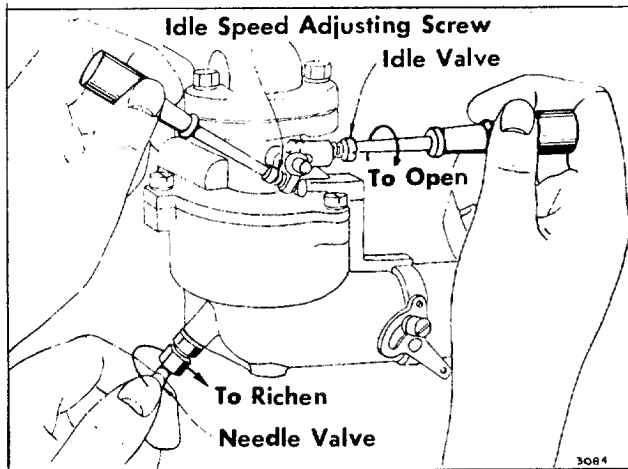

FIGURE 40. CARBURETOR ADJUSTMENT
Step 1. Remove the two belt guards on the deck pulleys. (See figure 40.)
The fuel shut-off valve is located under the gasoline tank and is opened by turning it counter-clockwise. See figure 40.